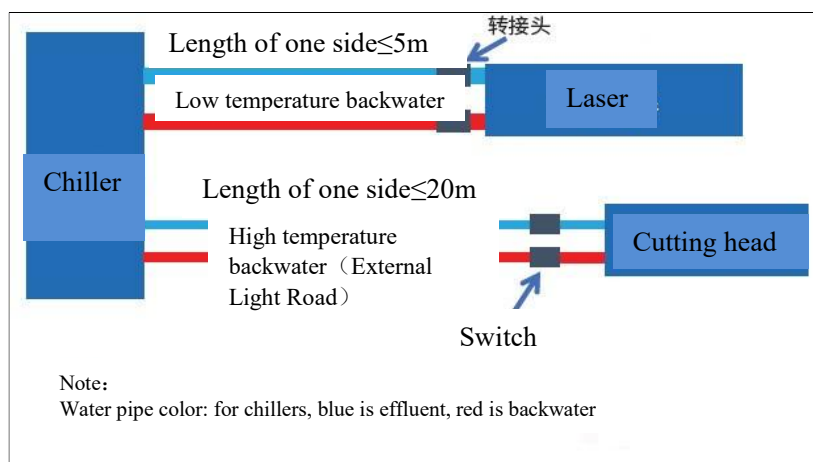

Fig.6 Connection diagram of chiller and laser
- Pipe connection: The connection method between the chiller and the laser is shown in FIG. 6. The inner diameter of the distribution pipe shall not be less than the diameter of the inlet and outlet of the chiller.